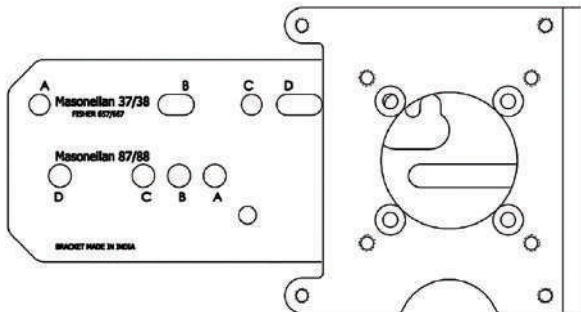

Figure 7 - Reciprocating Valve Mounting Bracket
2. Mount the SVI II ESD reciprocating mounting bracket to the actuator using two (2) 5/16 - 18 UNC cap screws. The mounting location of the bracket depends on the size and stroke of the actuator. Refer to Figure 7 on page 26, and Table 3 on page 23.
11. Adjust the turnbuckle until the hole in the SVI II ESD lever is aligned with the indicating hole in the bracket. Tighten both turnbuckle lock nuts. Refer to Figure 7.